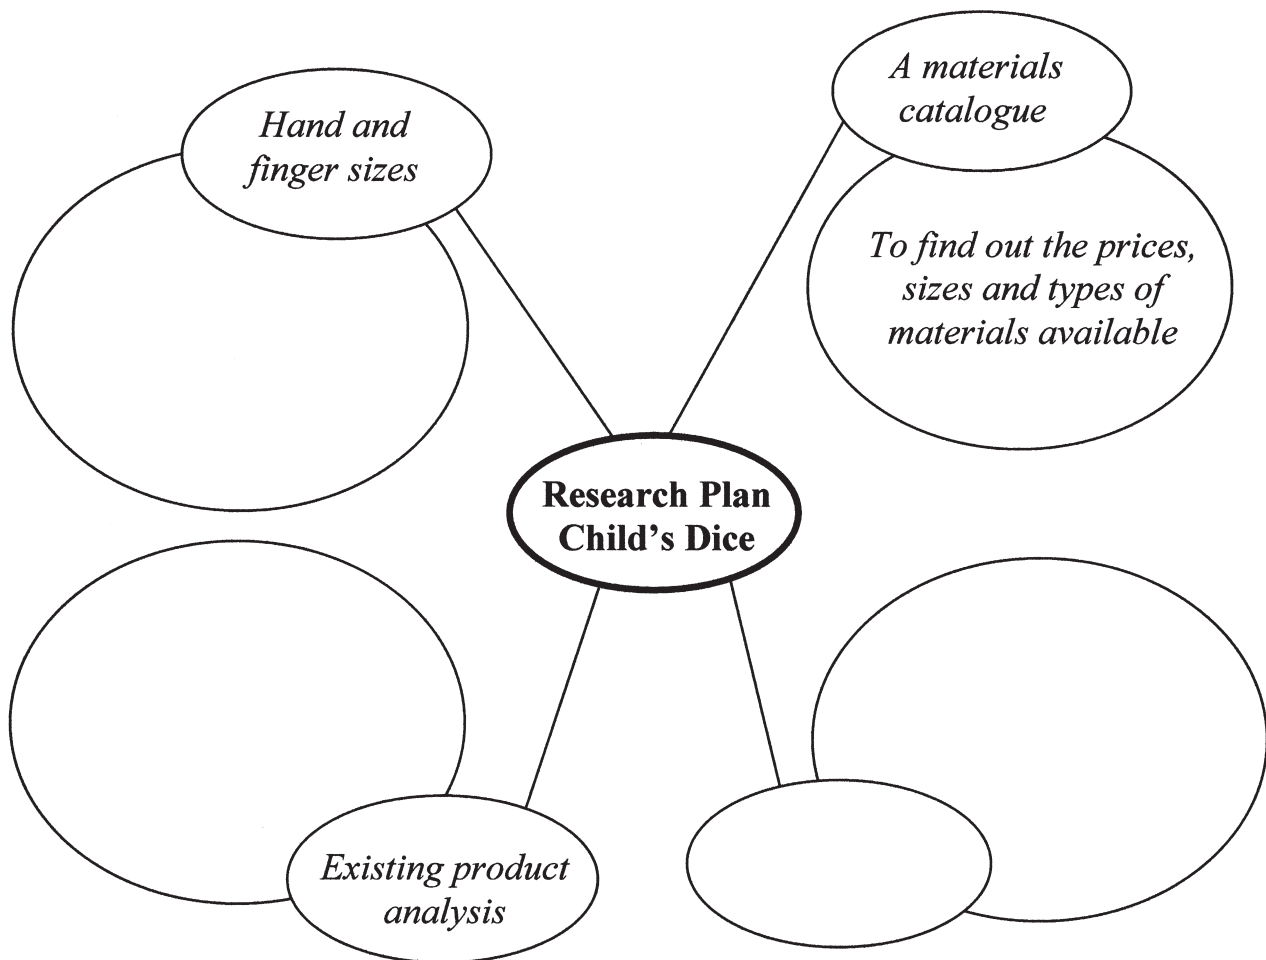

Figure 6
The layout of a research plan for the electronic dice is shown in **Figure 6**.
- (b) Complete **Figure 6** by adding suitable research sources and stating the information that you would hope to find. (7 marks)